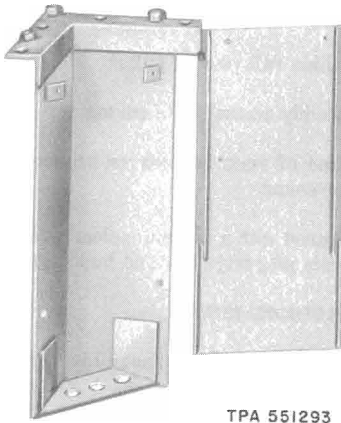

Fig. 4—KS-20255, List 13 Leg and Cover Assembly
2.05 These frameworks are mounted on two triangular steel legs (Fig. 4 or 5) which extend up from the mounting surface. Approximately 15 inches of open space exists around the bottom of the booth. Leveling studs are located in the top of these legs.